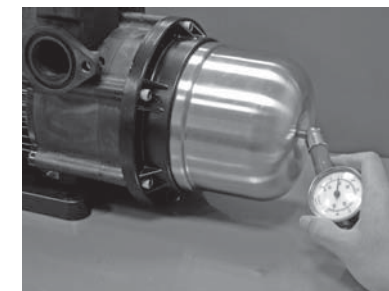

Fig. 4
4. Pressure tank air charge should be checked at regular intervals of every 3 months and after the pump has not been used for a prolonged period. To check the Pressure Tank air pressure, turn off power, open a tap on the discharge line to release pressure from the pump, unscrew the black plastic cover and apply an accurate pressure gauge to the valve as shown in Fig 4. Pressure should be adjusted to the original pre-charge as follows: